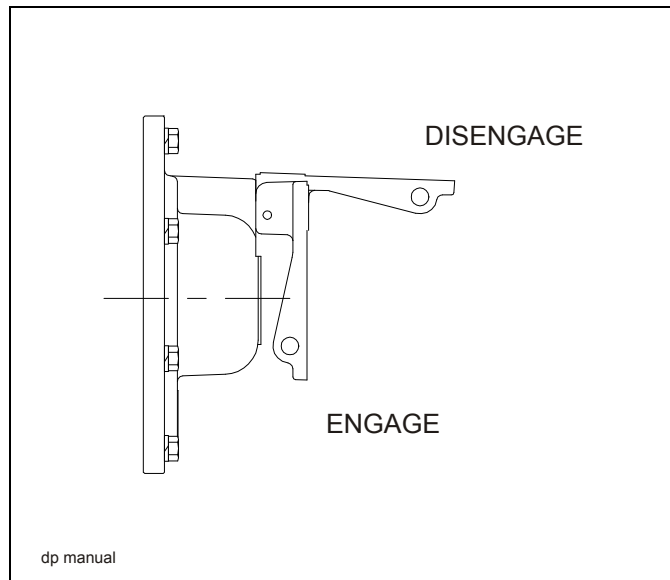

Figure 3-8: Manual Lever Kickout
1. The manual freespool clutch is operated by pulling lever kickout (**See Figure 3-8.**)